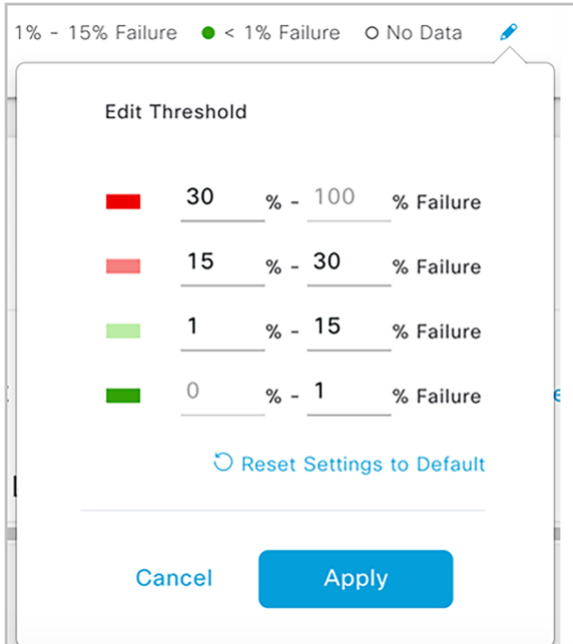

Figure 85.
The color code threshold determines the percentage of failed cases that indicate a certain level of failure and is classified by four different colors (**Figure 85.**).
- m. To customize the color code threshold, click the pen button within the bottom right side of the Overall Summary dashlet, make your change, and then click Save (**Figure 85.**).